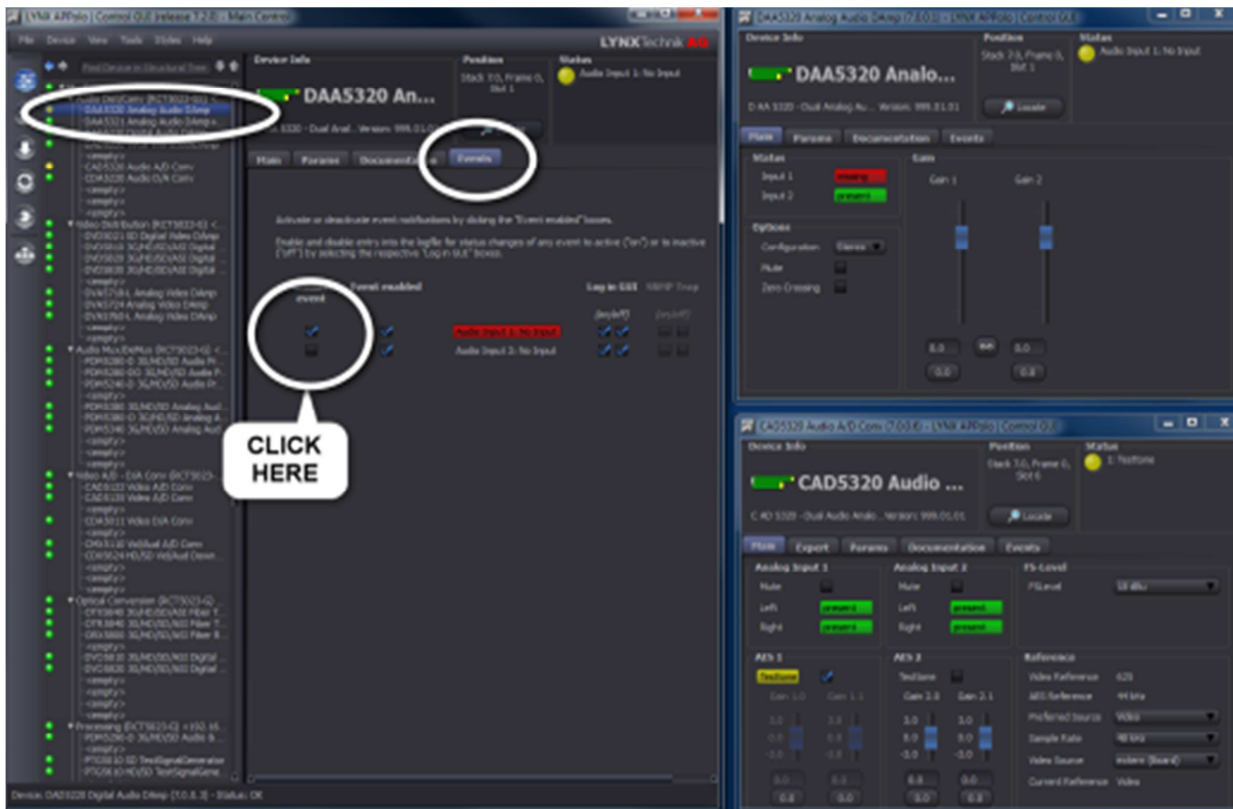

figure 23: Example, Step 11:Arrange windows -> see AutoControl in Action
Step 11 (figure 23)
- Arrange the two Extra-Windows to the right side of the APPolo Main-Window as shown in figure 23.